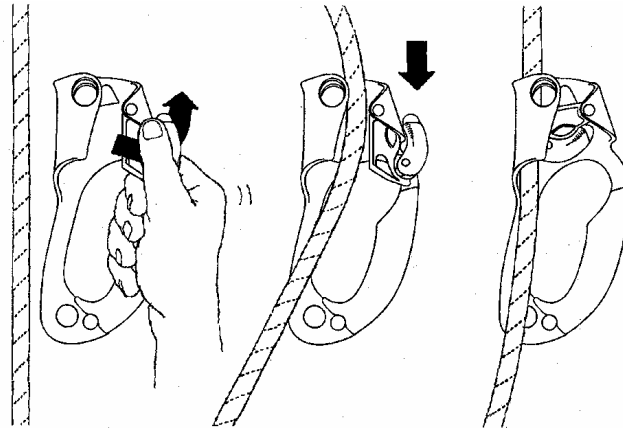

Figure 2
3. Unlock the catch to free the cam so that it pushes against the rope. See Figure 2.